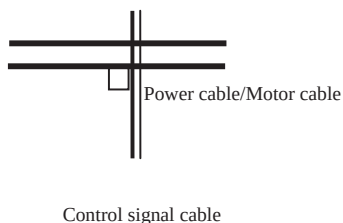

Fig. 3-16 Orthogonal wiring
(1) Please try not to wire motor cable (from VFD to motor) in parallel with power cable and keep at least 30cm from each other .
(2) Please try to arrange the motor cable through metal pipe or in-metal wiring groove.
(3) Please use shielded cable as control signal cable, and connect the shielding coat to PE terminal of VFD with proximal grounding to VFD.
(4) PE grounding cable should be directly connected to the earth plate.
(5) The control signal cable should not be in parallel with strong electricity cable (power cable/motor cable). They should not be bent together and should be kept away as least 20cm from each other. If cable crossing is inevitable, please make sure it is orthogonal as Fig. 3-16
(6) Please ground the control signal cable separately with power cable/motor cable.
(7) Please don't connect other devices to VFD power input terminals(R/S/T).